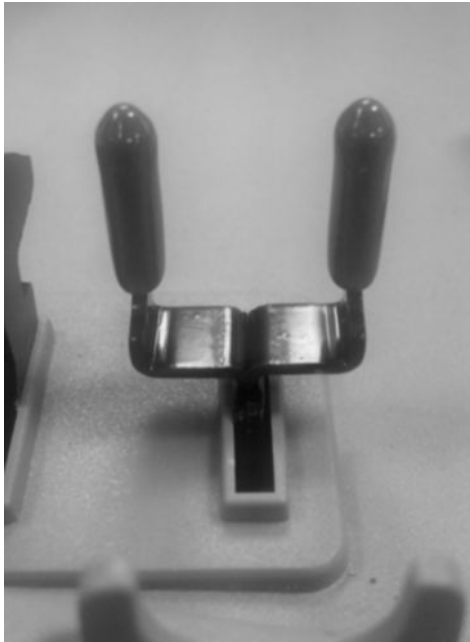

Figure 5: Installed caps
5. With the fork prongs exposed place the caps on the prongs one cap at a time and push down until they fit securely in place. (Ref Figure 5)